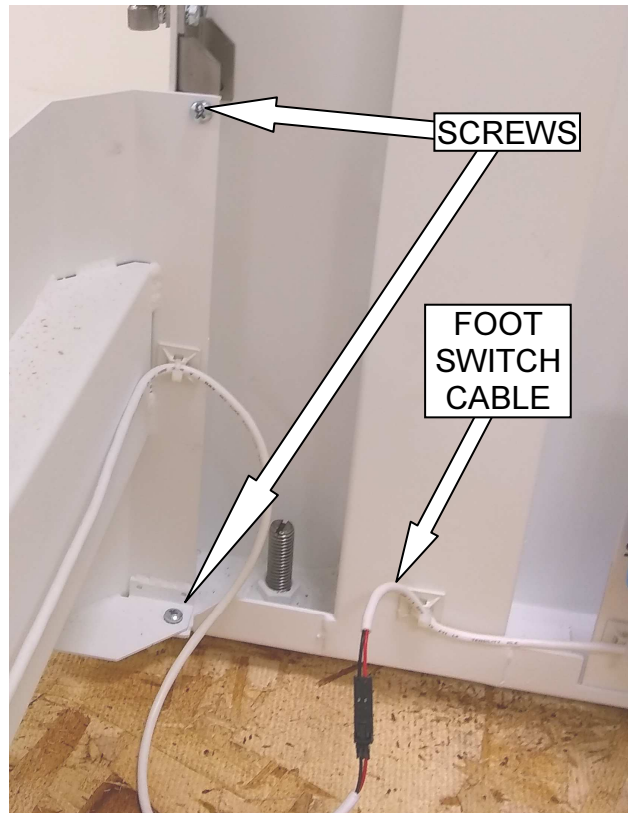

Figure 4
- b. If necessary, the lower front panel may be removed by unplugging the foot switch cable, removing the two screws on each side as shown in Figure 4 and then pulling the panel outward away from the table base.